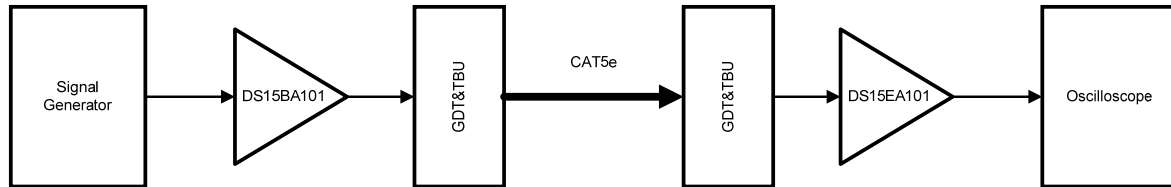

Figure 9. Test Setup with the Cable Extender Chipset
Figure 9 illustrates the Cable Extender Chipset (DS15BA101 and DS15EA101) test setup with the GDT&TBU solution inserted on both side of a relatively long CAT5e cable.
- A:** configuration (Figure 9) without the GDT&TBU boards inserted,
- B:** configuration (Figure 9) with the GDT&TBU boards inserted,
- C:** configuration (Figure 9) with the GDT&TBU boards inserted and the DS15BA101's RVO tweaked to compensate for the series resistance of the TBUs.